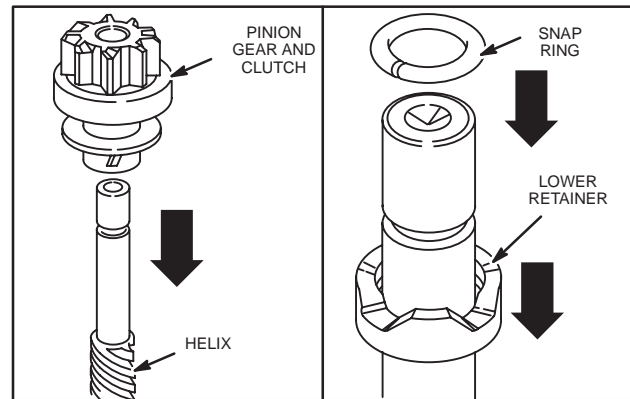

Fig. 56 – Installing Pinion Gear
2. Assemble new lower retainer to shaft, Fig. 56.